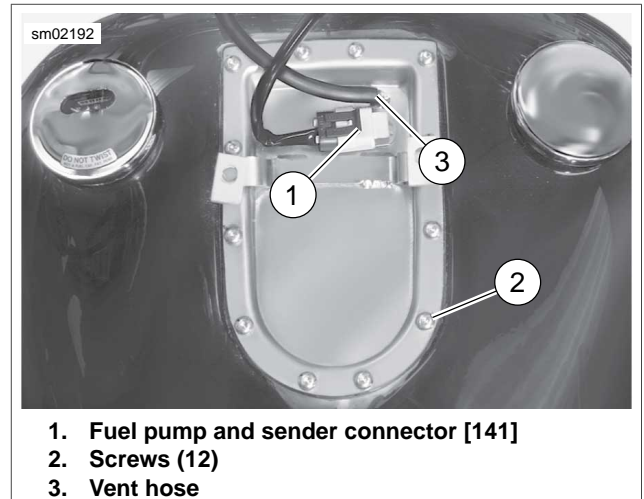

Figure 8-43. Top Plate Screws: FXDC/FXDWG/FXDF
5. See Figure 8-43. Unplug fuel pump and sender connector (1) [141].
6. Remove vent hose (3).
7. Remove top plate screws (2) and discard.